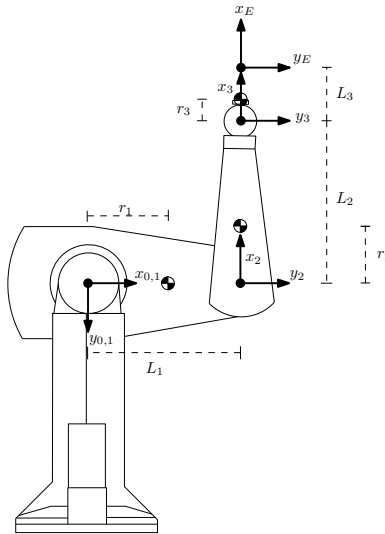

Figure 1: Puma RRR planar manipulator in zero configuration.
In this assignment you will derive the Denavit–Hartenberg (DH) parameters and compute the gravity vector of the RRR planar manipulator shown in Fig. 1, which corresponds to the 3-DOF mode of the Puma 560. The three joints in this mode correspond to the joints 2, 3, and 5 of the robot. Each link  $i$  has a mass  $m_i$ . Each center of mass (COM) is located at distance  $r_i$  in  $X$ -direction of frame  $i$ . The  $i$ -th joint angle is called  $q_i$ .
Use the frame assignment depicted in Fig. 1 to derive the DH parameters. The figure shows the zero configuration of the robot.